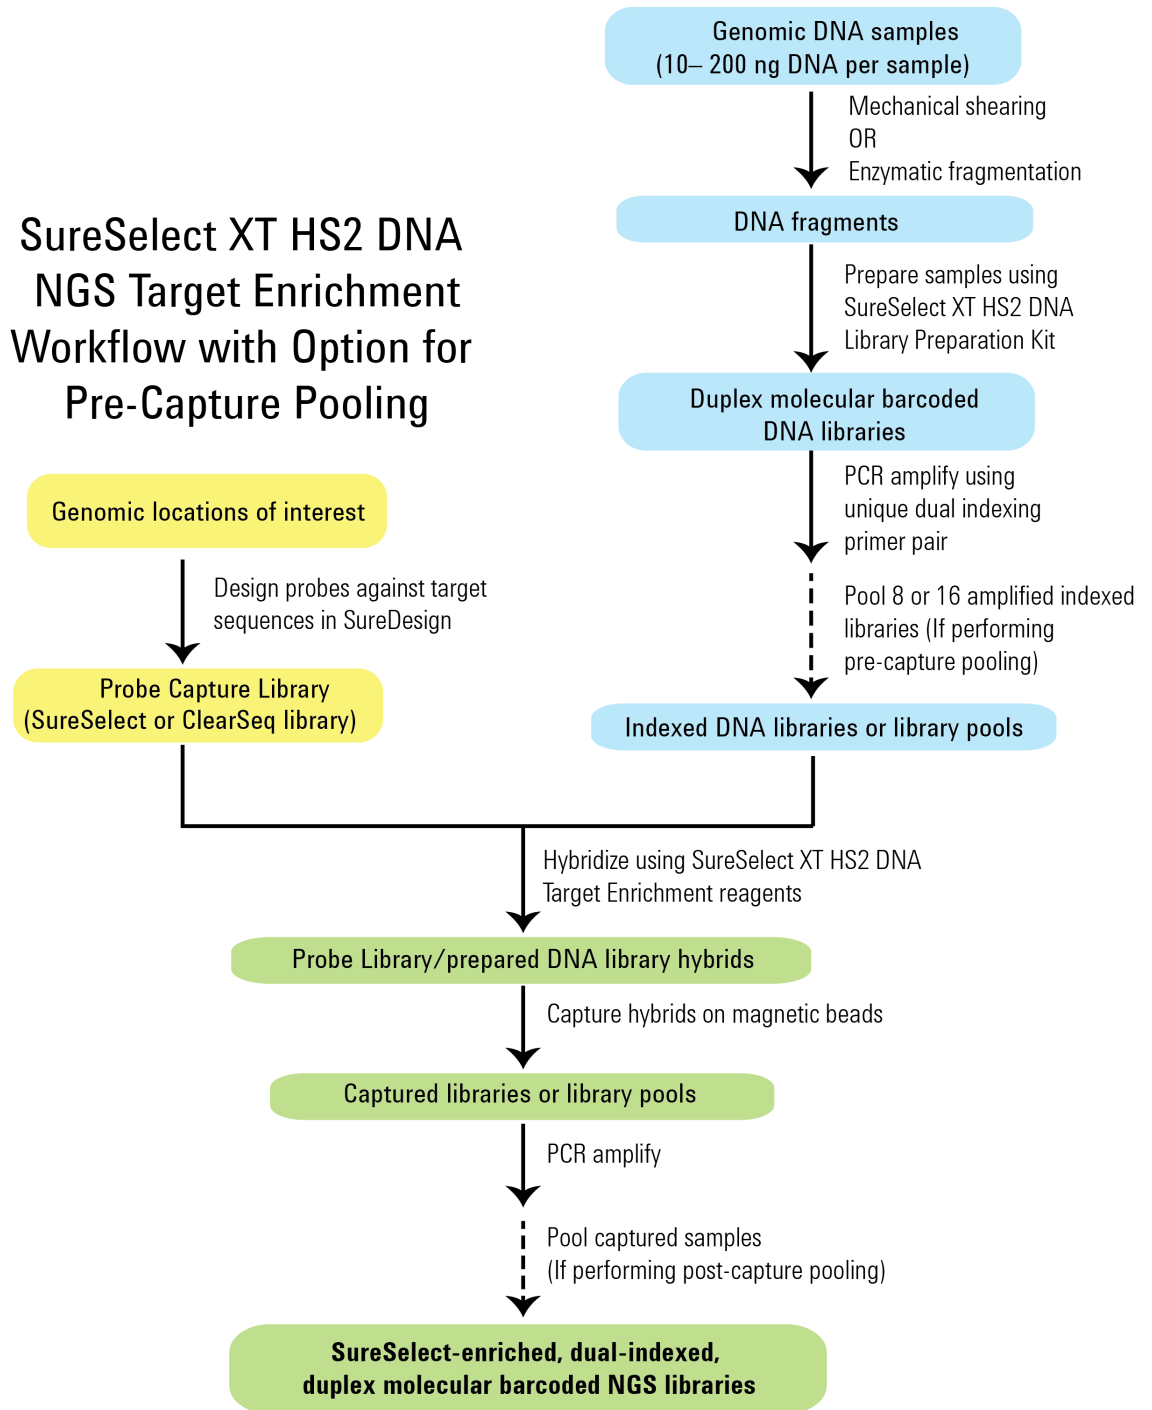

Figure 2 Overall sequencing sample preparation workflow.
Figure 2 summarizes the SureSelect XT HS2 library preparation and target enrichment workflow for DNA samples to be sequenced using the Illumina paired-read sequencing platform. For each sample to be sequenced, individual library preparations, hybridizations, and captures are performed.
- Samples are indexed during pre-capture amplification (see Figure 2). Assign each sample to the appropriate indexing primer during experimental design, and place the sample in the well corresponding to its assigned primer. See Table 99 on page 152 through Table 102 on page 153 for indexing primer plate maps.
- At the hybridization step (see Figure 2), you can add a different SureSelect or ClearSeq Capture Library to each row of the plate. Plan your experiment such that each prepared DNA library plate position corresponds to the appropriate Capture Library row in the sample plate.
- For post-capture amplification (see Figure 2), different Capture Libraries can require different amplification cycle numbers, based on sizes of the captured targets. It is most efficient to process similar-sized Capture Libraries on the same plate. See Table 69 on page 113 to determine which Capture Libraries may be amplified on the same plate.